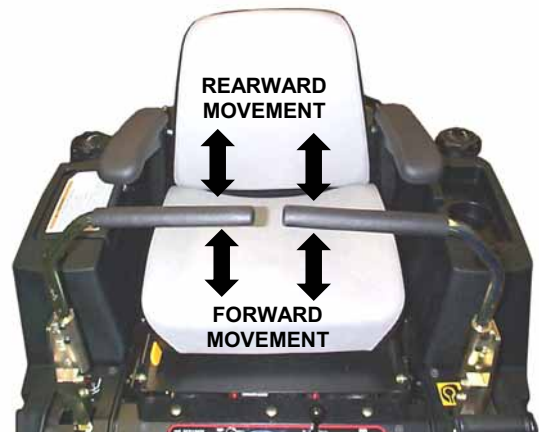

FIGURE 3.12
3. Move motion control levers gently and with caution in desired direction. See Figure 3.12.